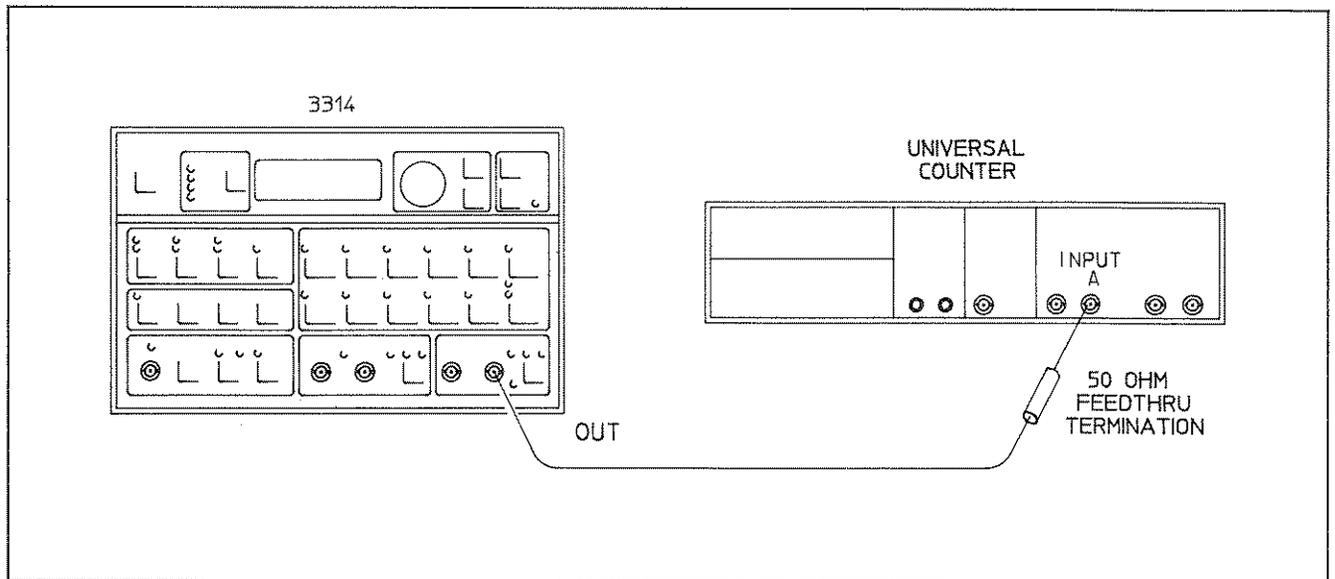

Figure 4-15. Manual Sweep Accuracy
D. Connect the 3314A to the Counter as shown in Figure 4-15.